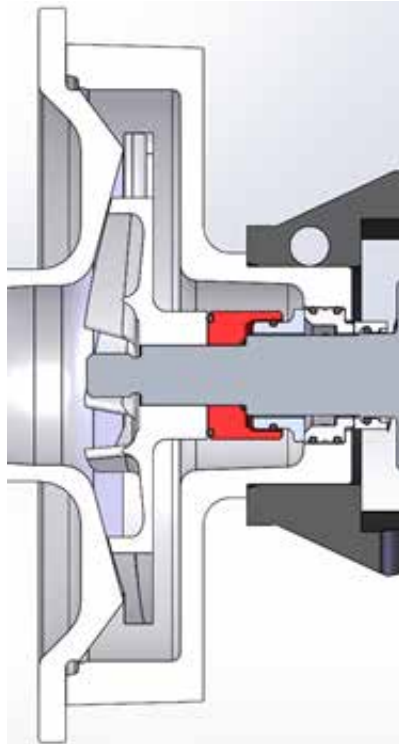
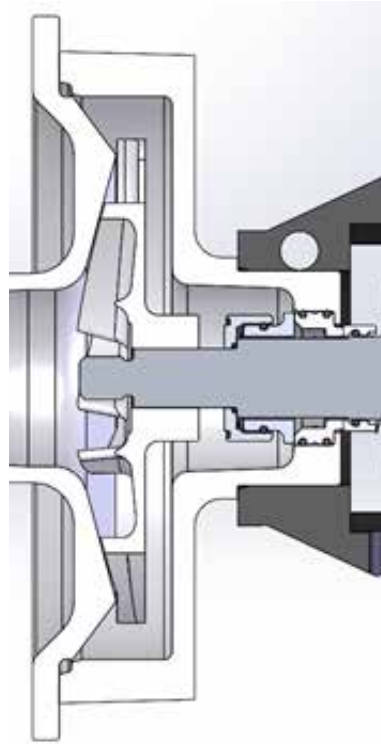

Figure S-1
Figure S-2
The FPR(S) functions the same as a standard FPR, but allows a large gap between the back face of the impeller and the product face of the housing. This gap is achieved by a larger seal driver (Fig. S-1). Some models currently require the FPR(S) seal driver to be ordered separately. In those instances, the standard seal driver (Fig. S-2) should be discarded.